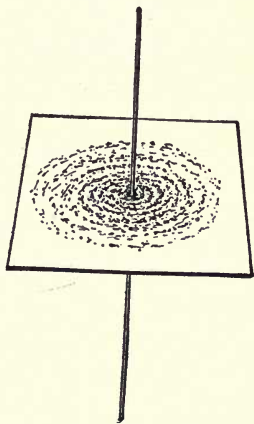

FIG. 71.—Lines of Magnetic Force Around an Electric Wire.
**200. Relation of Magnetism to Electricity.**—If a piece of copper wire through which a current of electricity is flowing is passed through a cardboard or glass plate and the card or plate is sprinkled with iron filings, the filings arrange themselves in circular lines (Fig. 71). If the card or plate is jarred and the iron filings displaced, they will rearrange themselves in the same circular lines.